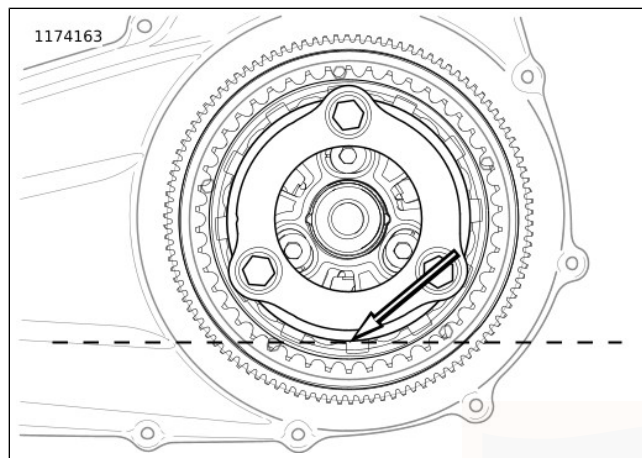

Figure 60. Primary Chaincase Lubricant Level
- b. See Figure 60. Proper level is approximately at bottom of pressure plate OD.